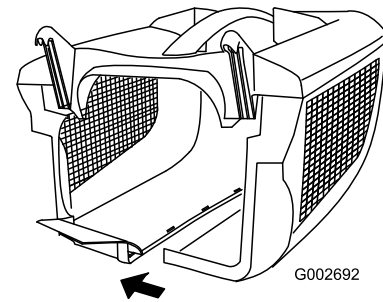

Figure 9
3. Starting at the rear, align and push the remainder of the side latches together (Figure 9).